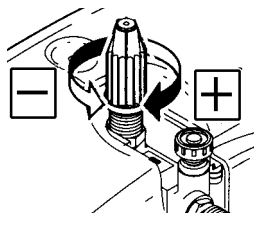

fig 6
- 4.2.3. While holding the trigger open turn the machine on, and adjust the motor control setting knob to the desired speed setting (fig 6).
The pressure gauge is liquid filled and indicates the output pressure in both psi and bar . Readings are only shown when **HIGH PRESSURE** is used, the trigger is depressed and water is flowing through the system. Familiarise yourself with the individual specifications shown in Section 2 and regularly check the gauge during use. Adjusting the motor speed (fig 6) will cause the gauge to rise or fall accordingly.